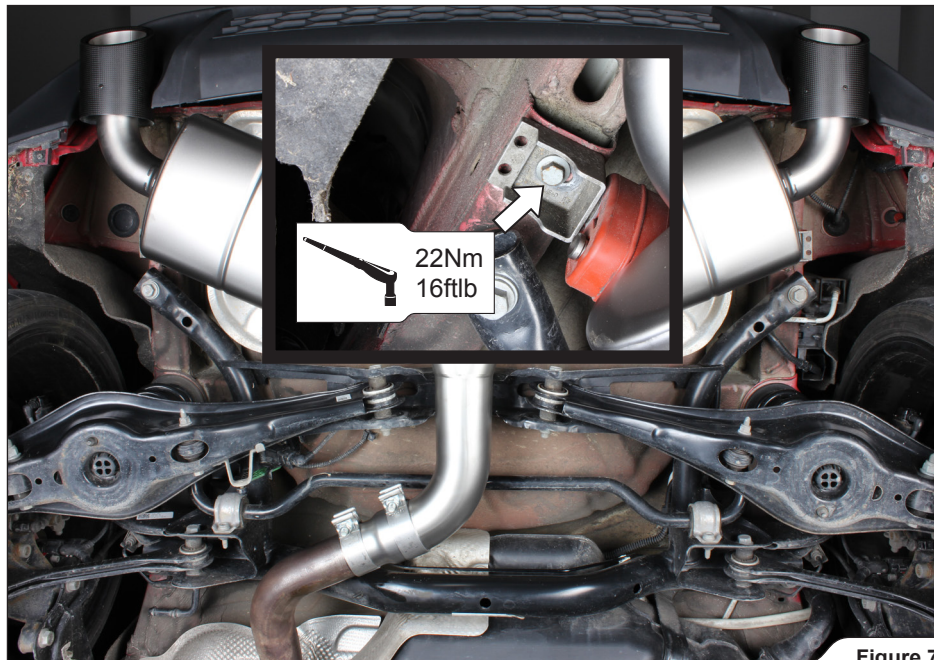

Figure 7
3. Slide the muffler onto the stock pipe and tighten the stock rubber brackets onto the vehicle chassis (**Figure 7**).